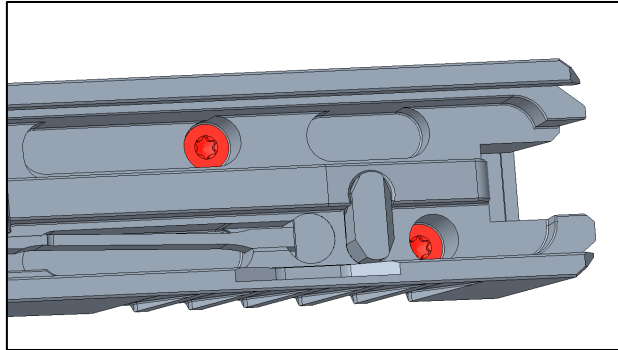

Figure 42: Remove the cover plate screws/install interface plate screws
3. Remove the cover plate with adjustable rear sight secured with two M3 screws (use the T10 Torx key-Figure 42).
4. Select the appropriate OR mounting plate and place it on the slide, insert two M3 screws through the bottom of the slide (Figure 42).